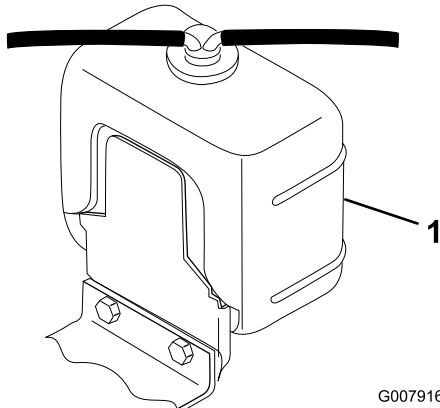

Figure 31
1. Carefully remove radiator cap and expansion tank cap (Figure 31).
2. Check level of coolant in radiator and in expansion tank (Figure 31).